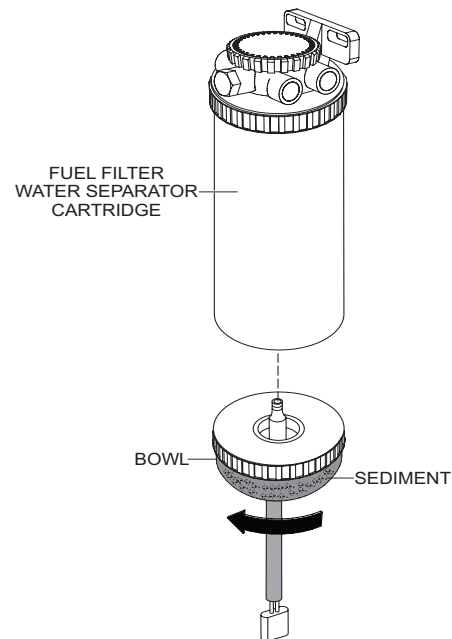

**Figure 63. Fuel Filter Cartridge Replacement**
1. Using a **filter wrench**, remove the **fuel filter cartridge** from the filter head (Figure 63).
2. Wipe the inside of the **filter head** (Figure 63) with a clean cloth to remove any foreign matter or debris that may have accumulated.
3. Replace both **gaskets** (Figure 63). Coat each gasket with a small amount of clean 15W-40 engine oil.